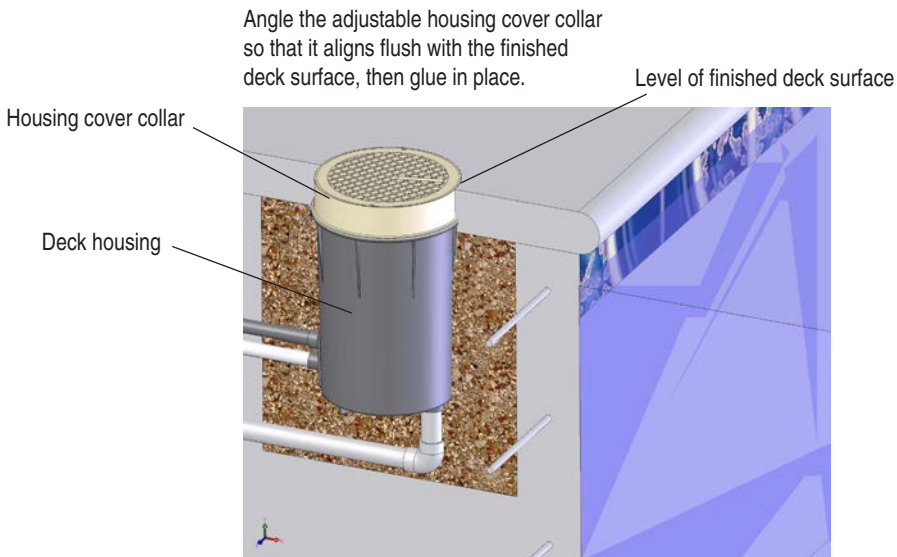

Figure 1.
3. Anchor the deck housing so that the top of the housing cover collar is at the level of the finished deck (Figure 1). The adjustable collar should be angled so that it will align flush with the finished deck surface. Once you have made the final adjustments to the collar's angle, glue the collar to the deck housing.